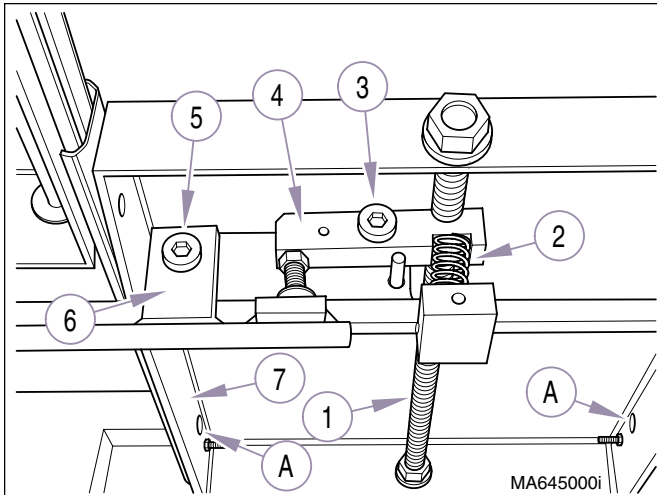

Figure 4-20. Foot Extension
Hold down brake release handle when removing brake shaft (1, Fig. 4-20), then, slowly release handle and remove brake lever spring (2).
- (4) Remove threaded brake shaft (1, Fig. 4-20) by removing the two outer nuts and backing off the two inside nuts approximately 1/2" (1.3 cm).
- (5) Remove brake lever spring (2).
- (6) Remove shoulder bolt (3) and threaded brake lever (4).
- (7) Remove shoulder bolt (5) and brake release handle (6).